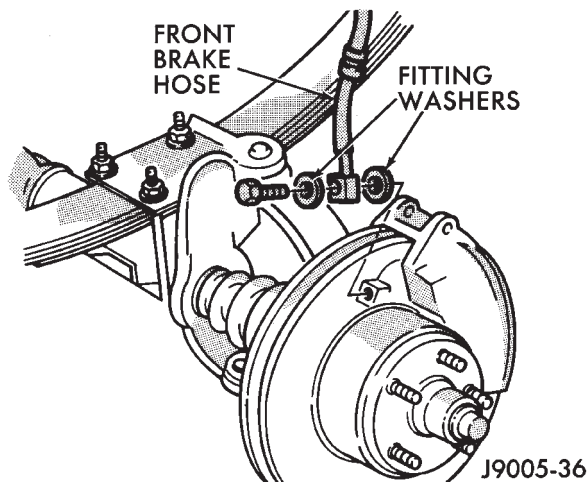

Fig. 22 Front Brake Hose And Fitting Components
(2) Connect brake hose fitting to caliper but do not tighten fitting bolt completely at this time. **Be sure to use new washers on fitting bolt to avoid leaks (Fig. 22).**